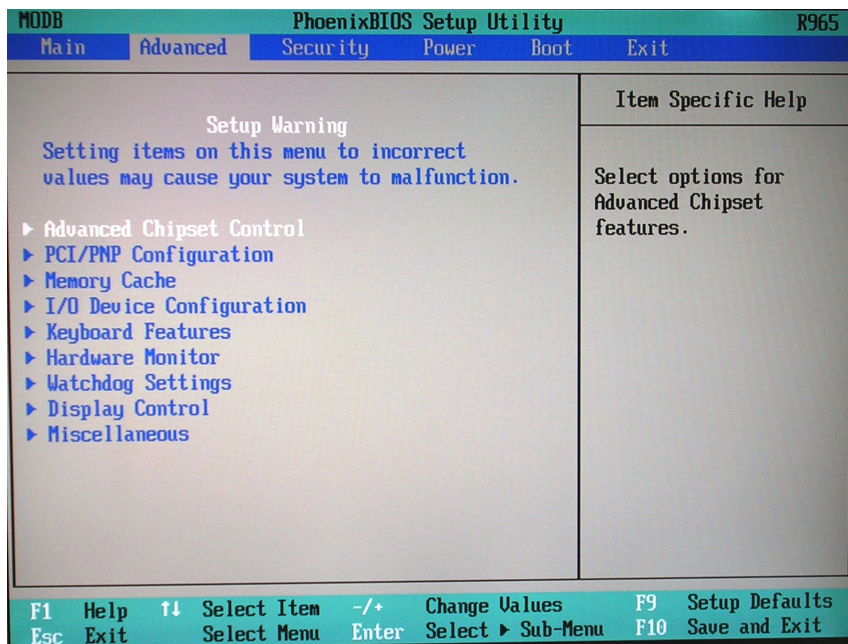

Figure 8-111 BIOS Advanced Parameters Screen
4.) Press <Esc> to return to the **Advanced** menu home screen (Figure 8-111).
7.) Press <Esc> to return to the **Advanced** menu home screen (Figure 8-111).
10.) Press <Esc> to return to the **Advanced** menu home screen (Figure 8-111).
13.) Press <Esc> to return to the **Advanced** menu home screen (Figure 8-111).
16.) Press <Esc> to return to the **Advanced** menu home screen (Figure 8-111).
19.) Press <Esc> to return to the **Advanced** menu home screen (Figure 8-111).
22.) Press <Esc> to return to the **Advanced** menu home screen (Figure 8-111).
25.) Press <Esc> to return to the **Advanced** menu home screen (Figure 8-111).